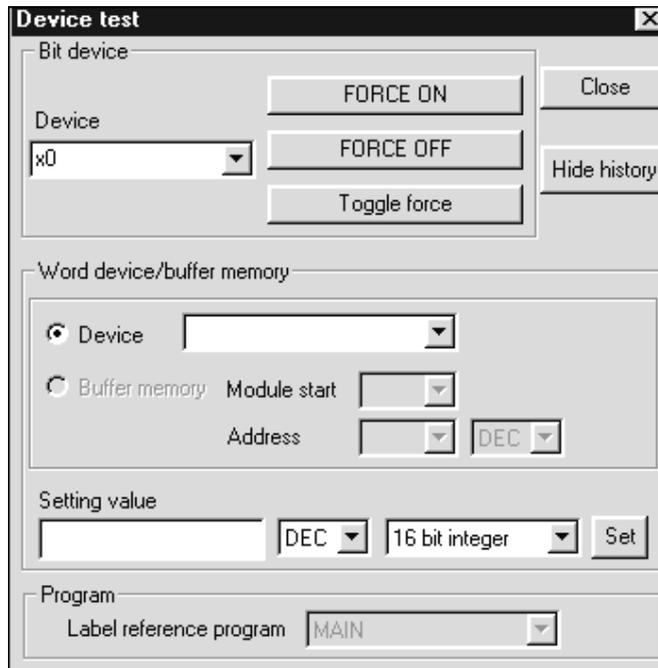

Figure 8.6
5. Enter X0, into the Device test window, as shown in Figure 8.6.